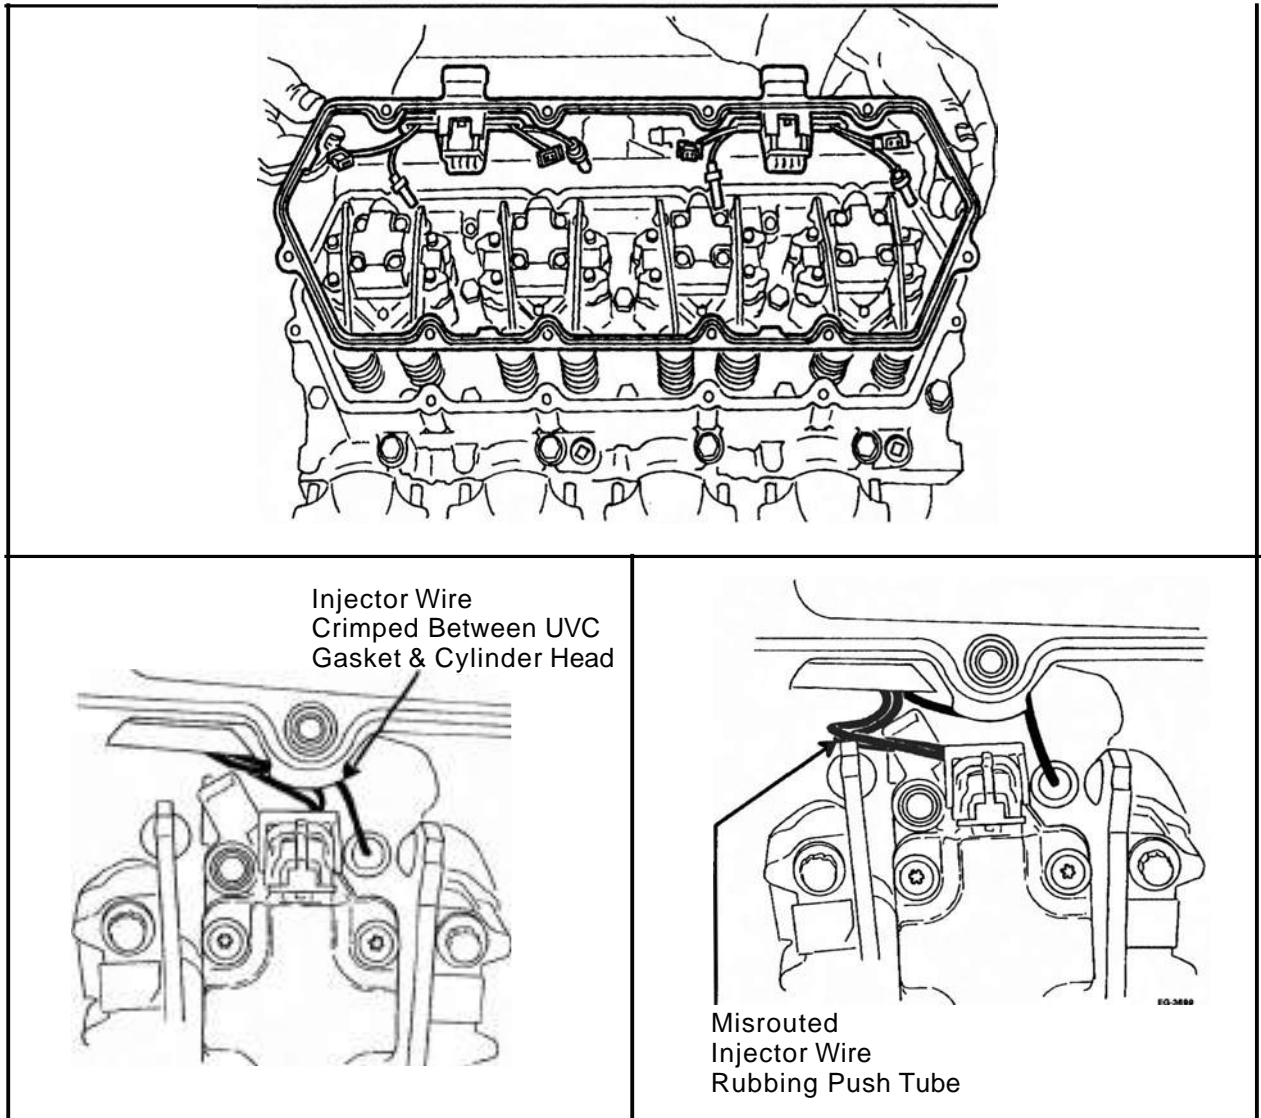

Figure 4.19. - Under Valve Cover Harness Inspection
- Remove the valve covers and inspect the under valve cover connectors (Figure 4.19.) for possible pinching under the valve cover gasket or rub through against the push tubes.